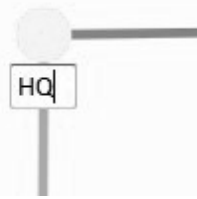

Figure 57 Custom Node Naming
- Custom Node Naming** – Naming each node in the network is as simple as double-clicking on the node name and typing in a new name as shown in **Figure 57**. Once this is done, the user need to hit enter to keep the node name. Otherwise it will change back to what it was. This feature enables quick identification of nodes in the field and is especially useful in mission critical situations with many mobile assets. The user can click on the ‘Save Labels in Flash’ button in the left pane to store the node names to the radio’s flash memory. This will store the names on the radio even after the radio is powered off. The saved labels can also be cleared back to the defaults by clicking ‘Clear Labels in Flash’. The node labels set in one radio can also be broadcasted to other radios in the network by clicking the ‘Broadcast Node Labels’ button.